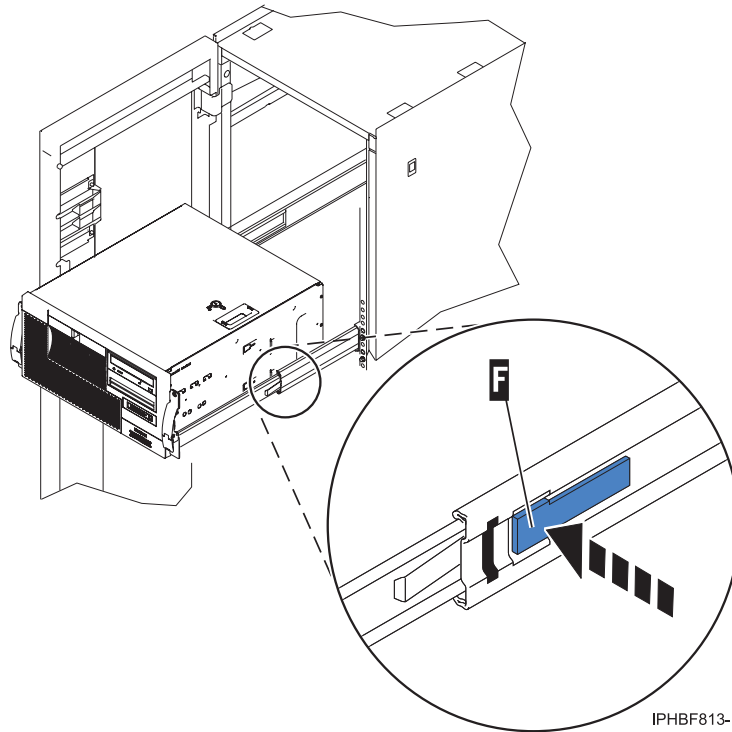

Figure 146. Press the safety latches and push the system unit into the rack.
11. Simultaneously depress the safety latches, located on both sides of the rails **F** in Figure 146 and push the system unit into the rack.